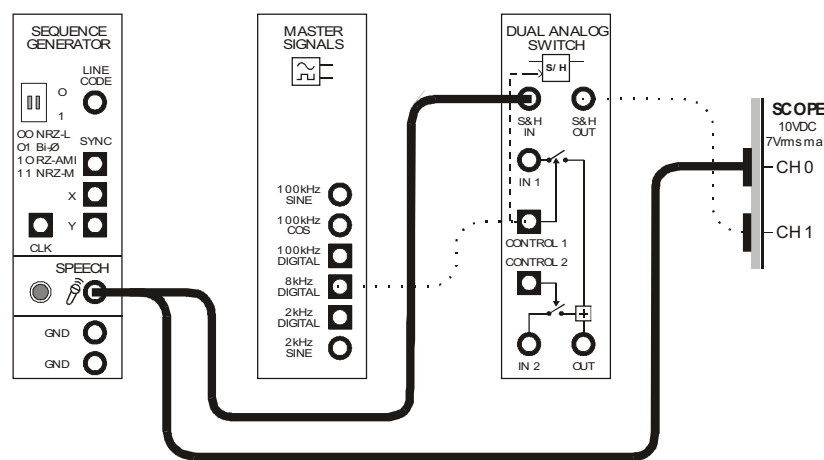

Figure 6
17. Connect them to the Speech module's output as shown in Figure 6 below.